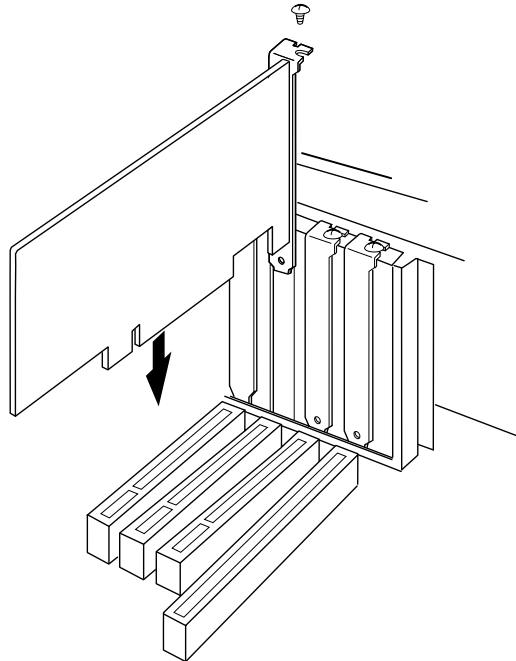

Figure 2-3. Inserting the Host Adapter
- 5 Position the host adapter directly over the PCI slot and insert the end of the board in the card guide. Carefully press the bus connector on the bottom of the host adapter down into the slot, as shown in Figure 2-3. Be sure the metal contacts on the bottom of the host adapter are securely seated in the slot.